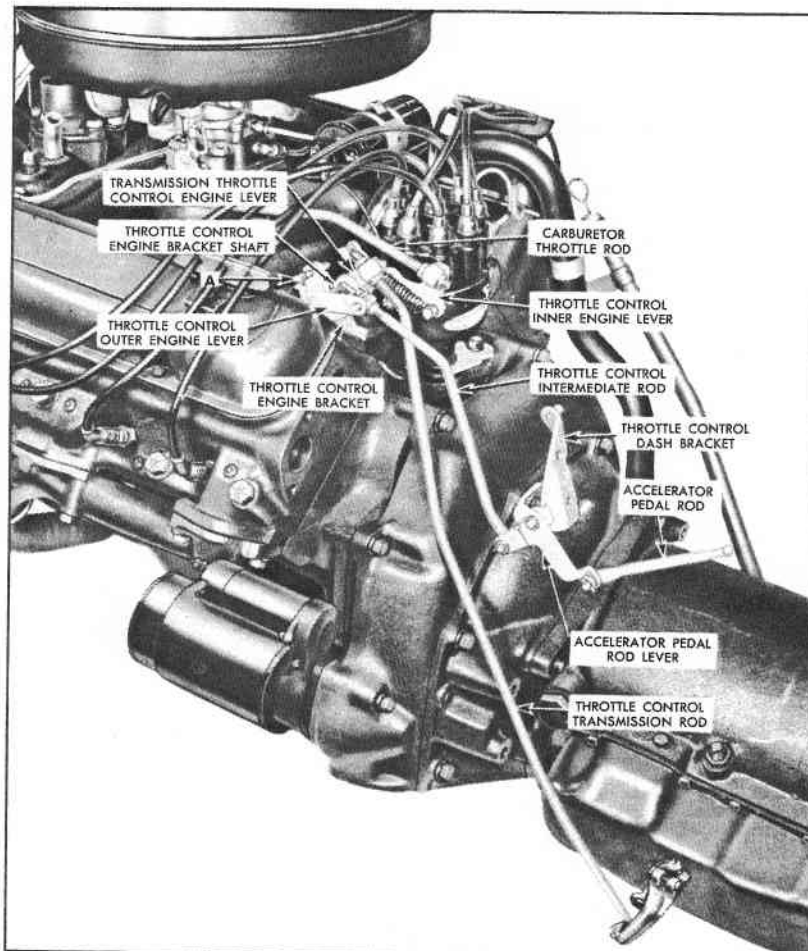

Fig. 39 Throttle Control Linkage
pin J-2544 through holes in lever and bracket at "A" (Fig. 39).
4. With idle adjusting screw seated against its stop, adjust length of carburetor throttle rod (Fig. 39) at lock nuts so that gauge pin is free in hole "A". Leave pin installed and tighten lock nuts securely. Recheck freeness of gauge pin in holes.
7. Loosen lock nuts on throttle control intermediate rod trunnion (Fig. 39).